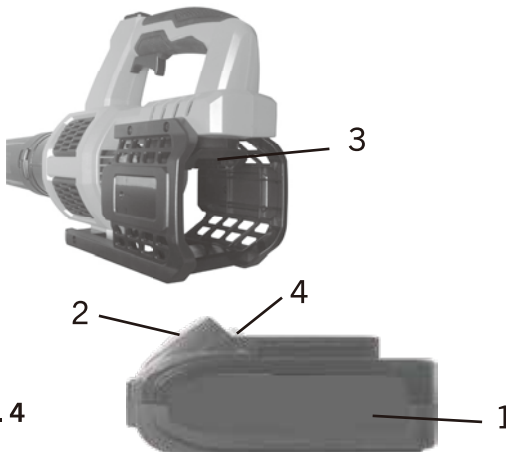

FIG. 4
1. Remove the discharged battery (1) from the brushless axial fan blower by pressing downward on the battery release button (2) and sliding the battery backward until it is removed from the brushless axial fan blower port (3) (Fig. 4).
2. Slide the fully charged battery onto the matching keys (4) in the brushless axial fan blower port (3) where the discharged battery has been removed.